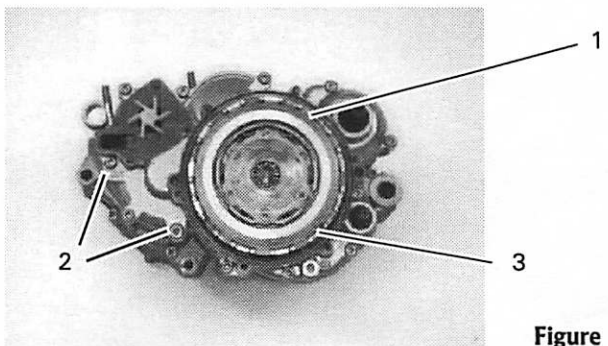

Figure 116
2. Install the clutch cover (1, Figure 116) and secure it with the 11 M6 Allen screws and the 1 M8 Allen screw and use a new copper sealing gasket. Install washers on the 2 Allen screws identified in 2, Figure 116. Tighten the M6 Allen screws to 10 N.m (88 in.-lb.). Tighten the M8 Allen screw to 18 N.m (13 ft.-lb.).
4. Install the O-ring (3, Figure 116) into the clutch cover groove.